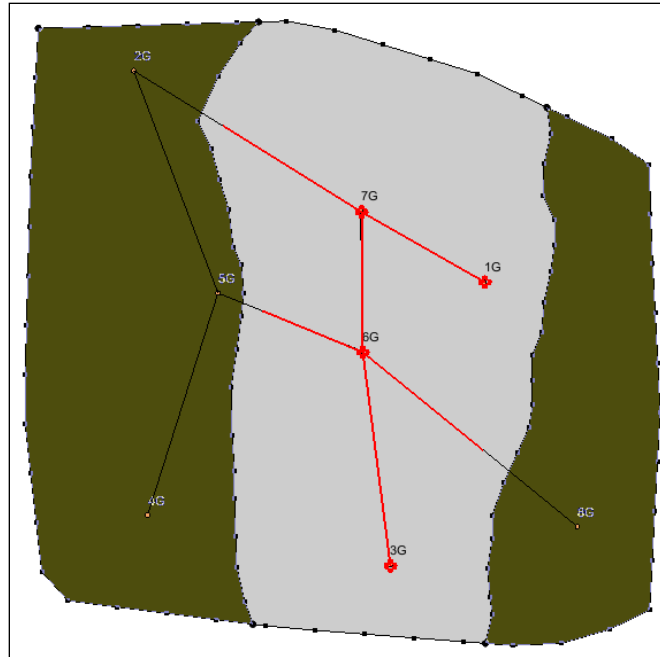

Figure 7 Polygons to delete (highlighted in green)
2. Using the **Select Polygons**  tool, hold down the *Shift* key and select the two highlighted polygons (to the left and right of the center polygon, Figure 7).